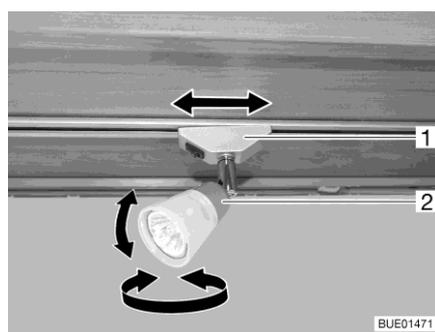

Fig. 29 Spotlight
- Turn housing (Fig. 29,2) of the spotlight to the desired direction. The housing can be turned in following directions:
- Turn holder (Fig. 29,1) through approx. 45°.
- Turn holder (Fig. 29,1) through 90°.